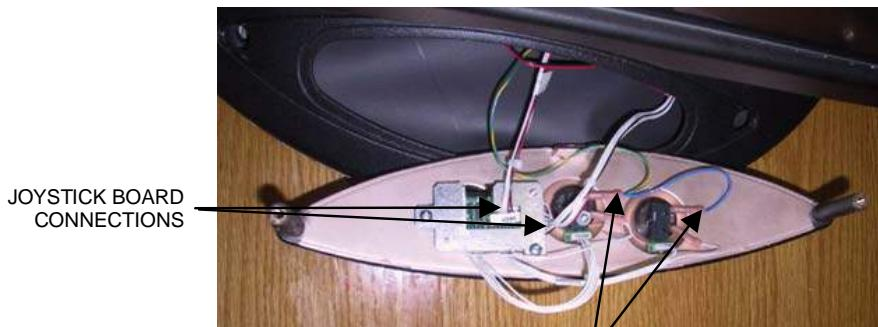

FIGURE 2 - JOYSTICK ASSEMBLY REMOVED FROM STANDARD AURORA
3. Carefully upright the game and remove the joystick assembly. Turn the assembly over and remove the two connections to the joystick board and the two ground wire connections (on non-Widescreen Aurora systems). See Figure 2.
1. Reconnect the two connections to the joystick board and the two ground wire connections (on non-Widescreen Aurora) to the new joystick assembly. See Figure 2. Turn the new joystick assembly over and install it in the game.